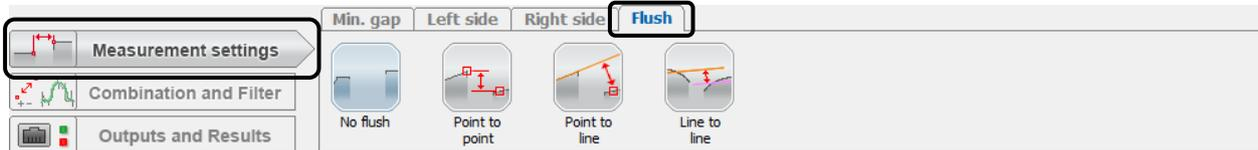

Fig. 3.45: "Measurement settings" input field, "Flush" tab sheet
- If not already done so, click on the "Measurement settings" button (see Fig. 3.45).
- If not already done so, click on the "Flush" tab (see Fig. 3.45).